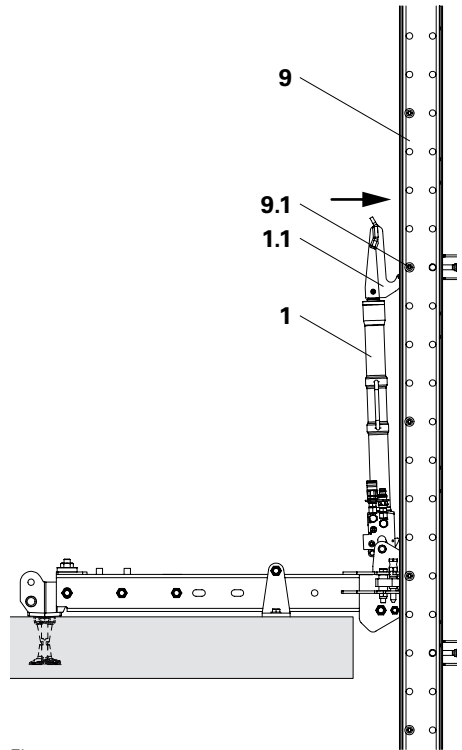

Fig. 57
2. If the head bearing does not remain in the rail, position the head bearing **(1.1)** by hand between the profiles of the Climbing Rail. (Fig. 57)